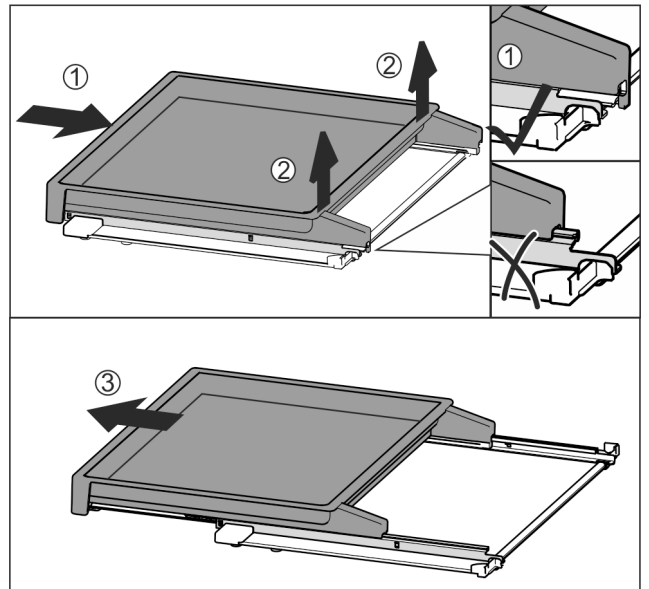

Fig. 61
- ▶ Slide the pull-out board all the way in Fig. 61 (1).
- ▶ Release the clips at the back Fig. 61 (2).
- ▶ Remove the pull-out board from the front Fig. 61 (3).